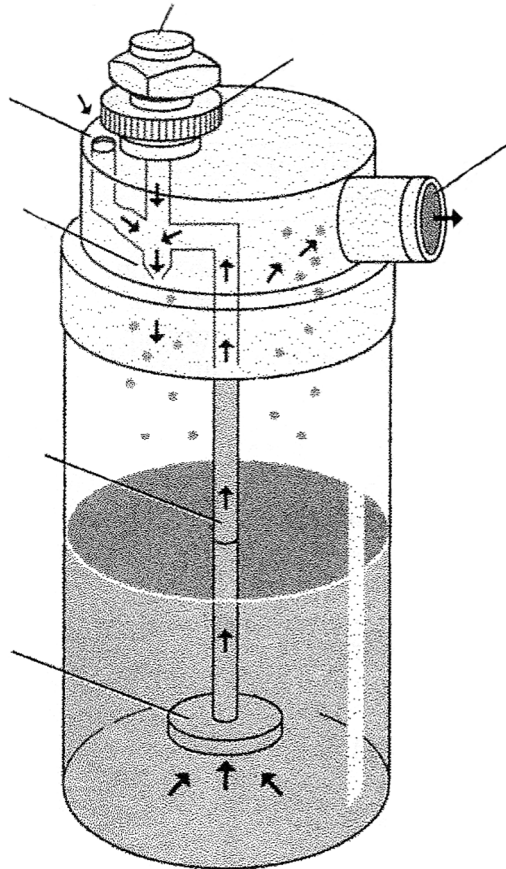

Fig. 2
2. Identify the following parts on a pneumatic nebulizer and label Fig. 2.